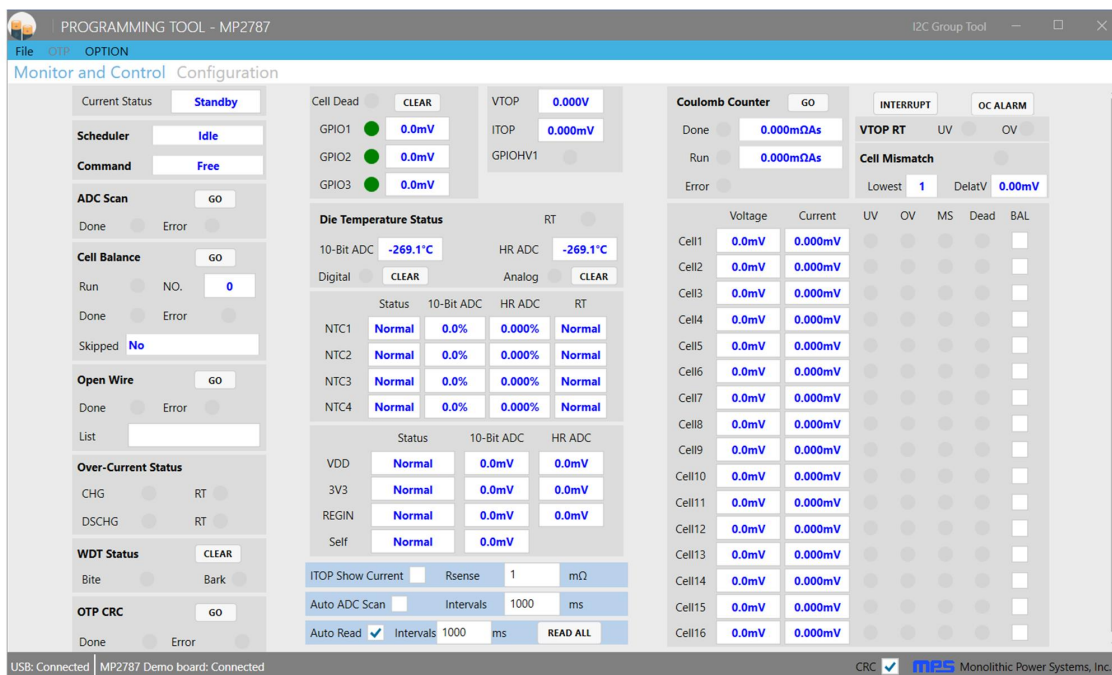

Figure 8: MP2787 Programming Tool GUI Software
13. Connect the USB cable to the PC, turn on the computer, and launch the MP2787 Programming Tool (GUI evaluation software). Figure 8 on page 8 shows the software's main window.
4. Click the analog-to-digital converter (ADC) scan “Go” button (see Figure 8 on page 8). The ADC result should be updated to the corresponding register.
5. Click the “Read All” button. The updated values should be displayed in the GUI. If the “Auto Read” checkbox is checked, it is not required to click the “Read All” button (see Figure 8 on page 8).